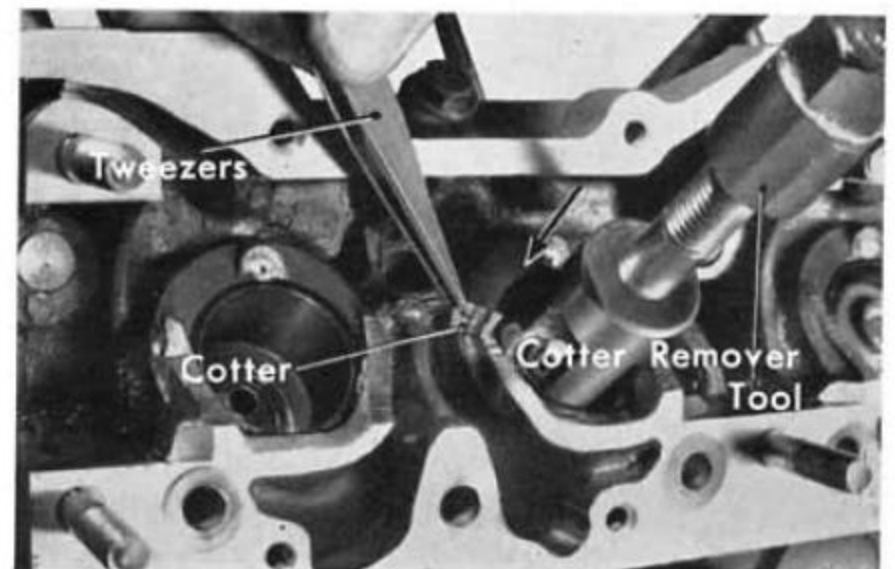

Fig. 1G-11
17. Remove screws attaching the cylinder head lower cover to the cylinder head and disassemble the cover (Fig. 1G-12).